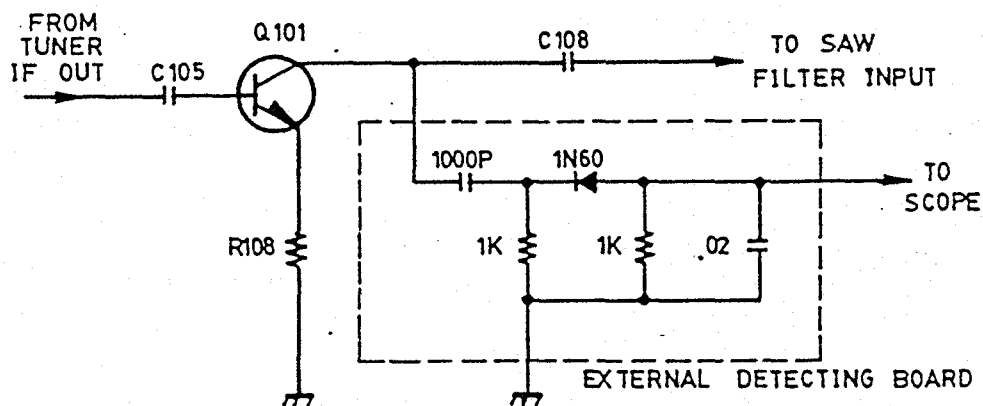

Fig. 9
2. Connector the external detecting circuit between the syncoscilloscope input and TP 101 (Q101 — Collector). (See Fig.9.).